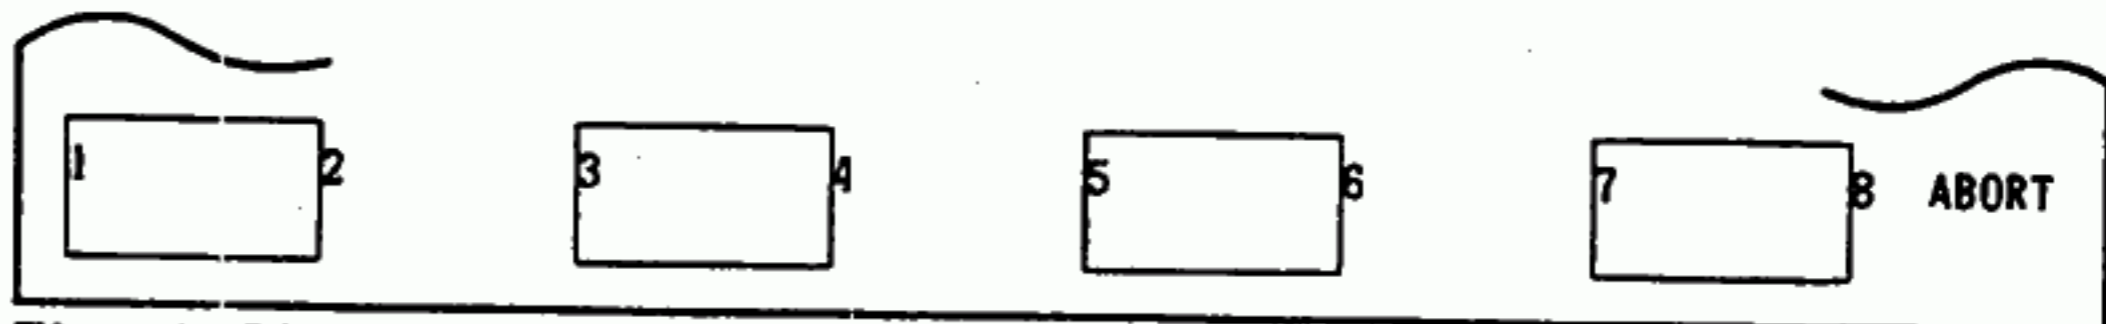

Fig. 4.59
4. If an obvious miscomparison (difference between the program size and U84 memory capacity) is found during the verifying process, the label shown in Fig. 4.59 is displayed, and the buzzer sounds intermittently for 10 seconds. Depressing **ABORT** key returns the static shown in Fig. 4.41.